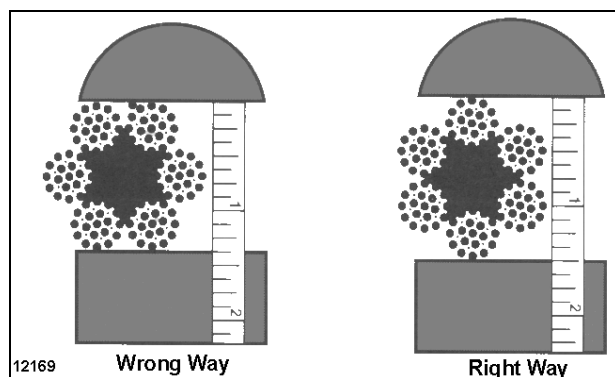

Figure 5-5. Correct Method of Measuring Rope.
- (2) Wear of one-third of the original diameter of outside individual wires.
- (3) Kinking, crushing, or birdcaging.
- (4) Heat damage from any cause.
- (5) Reductions from nominal diameter of more than 1/32" for 7/16" diameter rope or 3/64" for 9/16" rope. See figure 5-5 for proper measurement techniques.